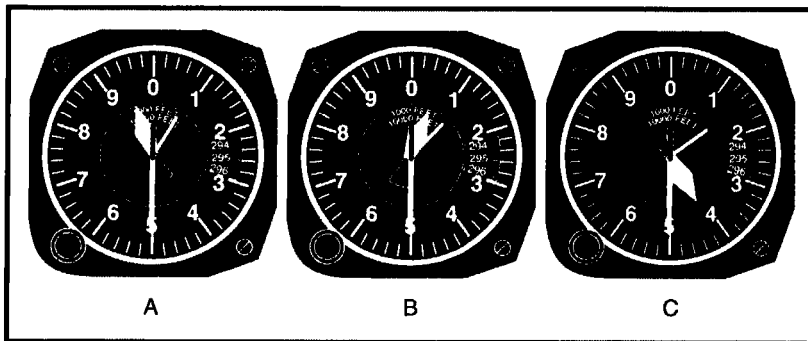

Figure 1.1
1.3.3 In Figure 1.1, altimeter A is indicating what altitude?
1.3.4 In Figure 1.1, altimeter B is indicating what altitude?
1.3.5 In Figure 1.1, altimeter C is indicating what altitude?